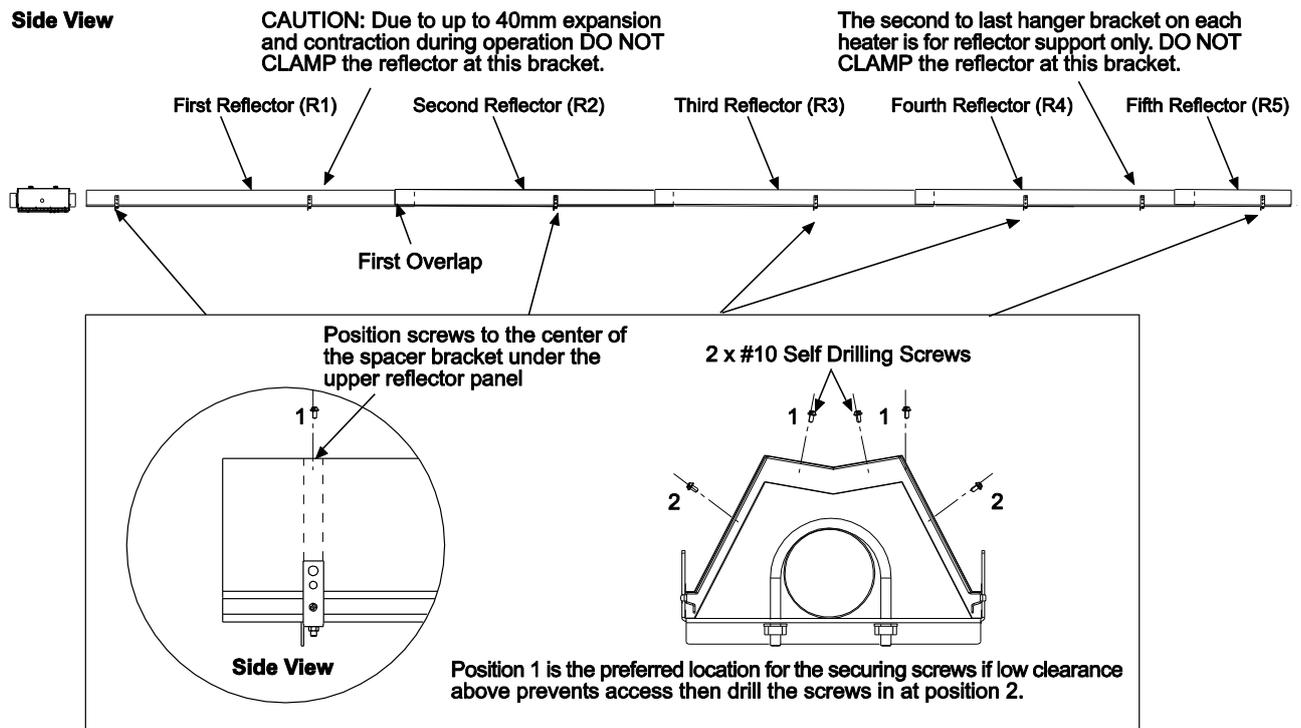

Fig. 22i
- IV. Repeat this at each hanger bracket specified in figure 22i.